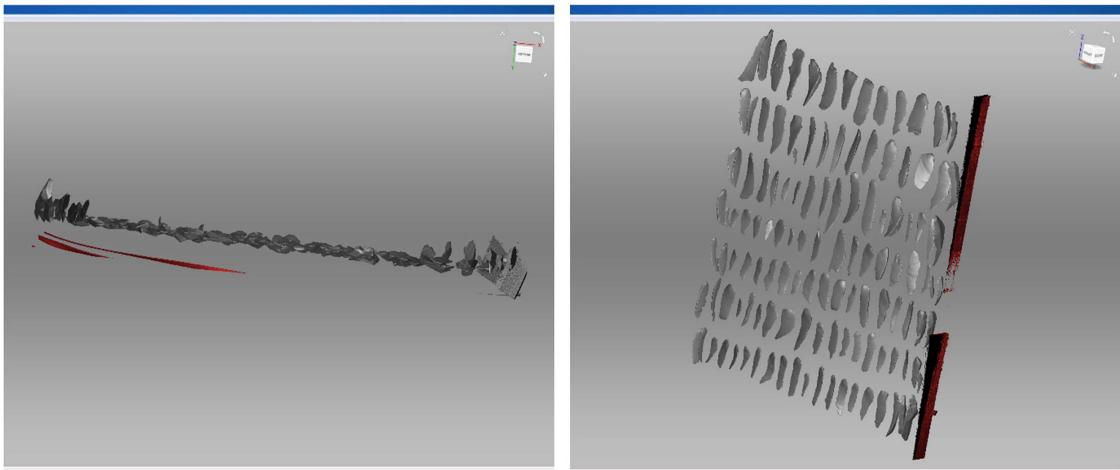

Fig. 26: Selected outlying materials (red).
29.2 To remove the outlying materials, press and hold Ctrl while pressing and dragging the left cursor over the materials. Selected areas will be marked in red (Fig. 26).